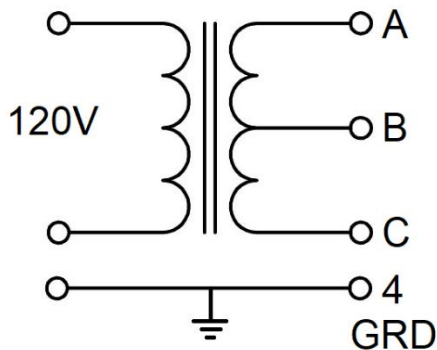

Figure 4: An educated guess at the internal organization of the xyz transformer.
Now that we have that out of the way, let's determine the configuration of windings in the transformer. My guess is that the transformer output is center tapped; meaning that the secondary winding is divided into two evenly split sections as shown in Figure 4.
- 4) What screw-terminals are associated with A, B and C in Figure 4? Hint, there are two possible answers, just provide one.
- 6) What is the RMS voltage between terminals A and B in Figure 4? Convert this RMS voltage to peak-to-peak.
- 7) What is the RMS voltage between terminals A and C in Figure 4? Convert this RMS voltage to peak-to-peak.